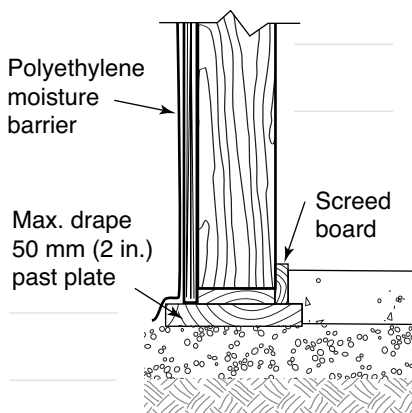

FIGURE 64
- do not seal the polyethylene to the footing, so that trapped water may drain (see Figure 64);